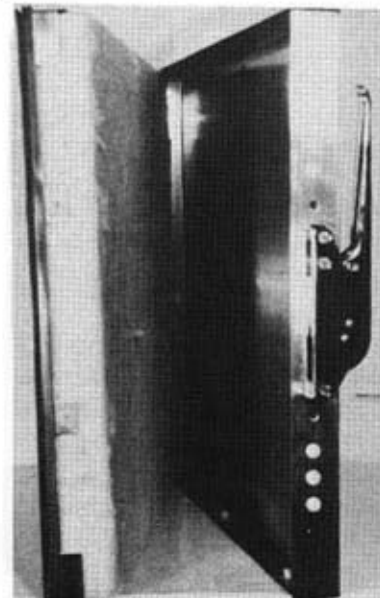

FIG. 19
2. Remove the eight (8) screws (CC16 models), 10 screws (CG15 and CB21 models), or 14 screws (CB53 models) securing inner door panel to outer door panel and remove insulation. Save screws and insulation for reuse (See Figure 19).